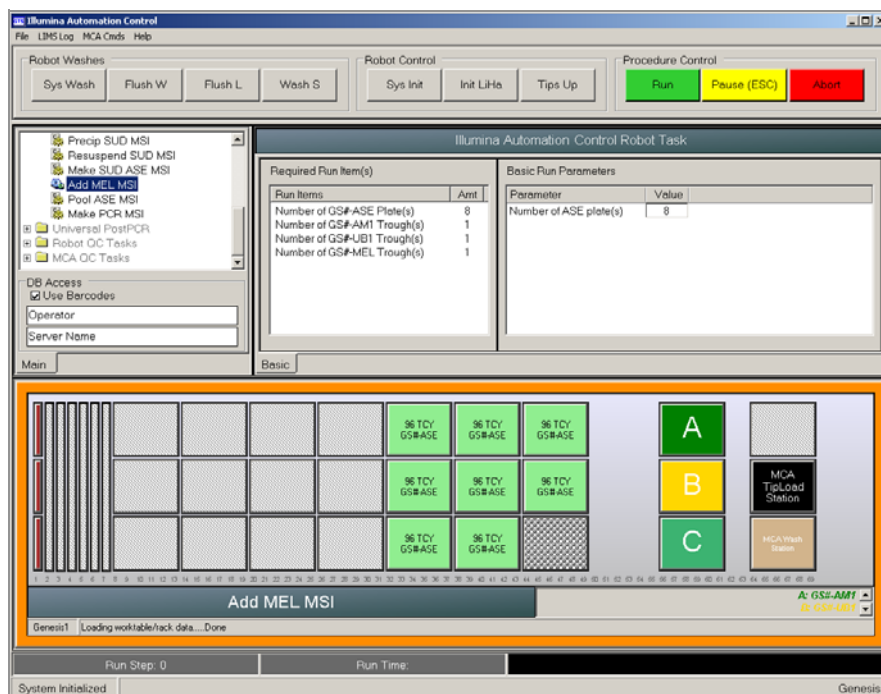

Figure 27 Universal MSI PrePCR | Add MEL MSI
1. From the robot PC, select **Universal MSI PrePCR | Add MEL MSI** (Figure 27).